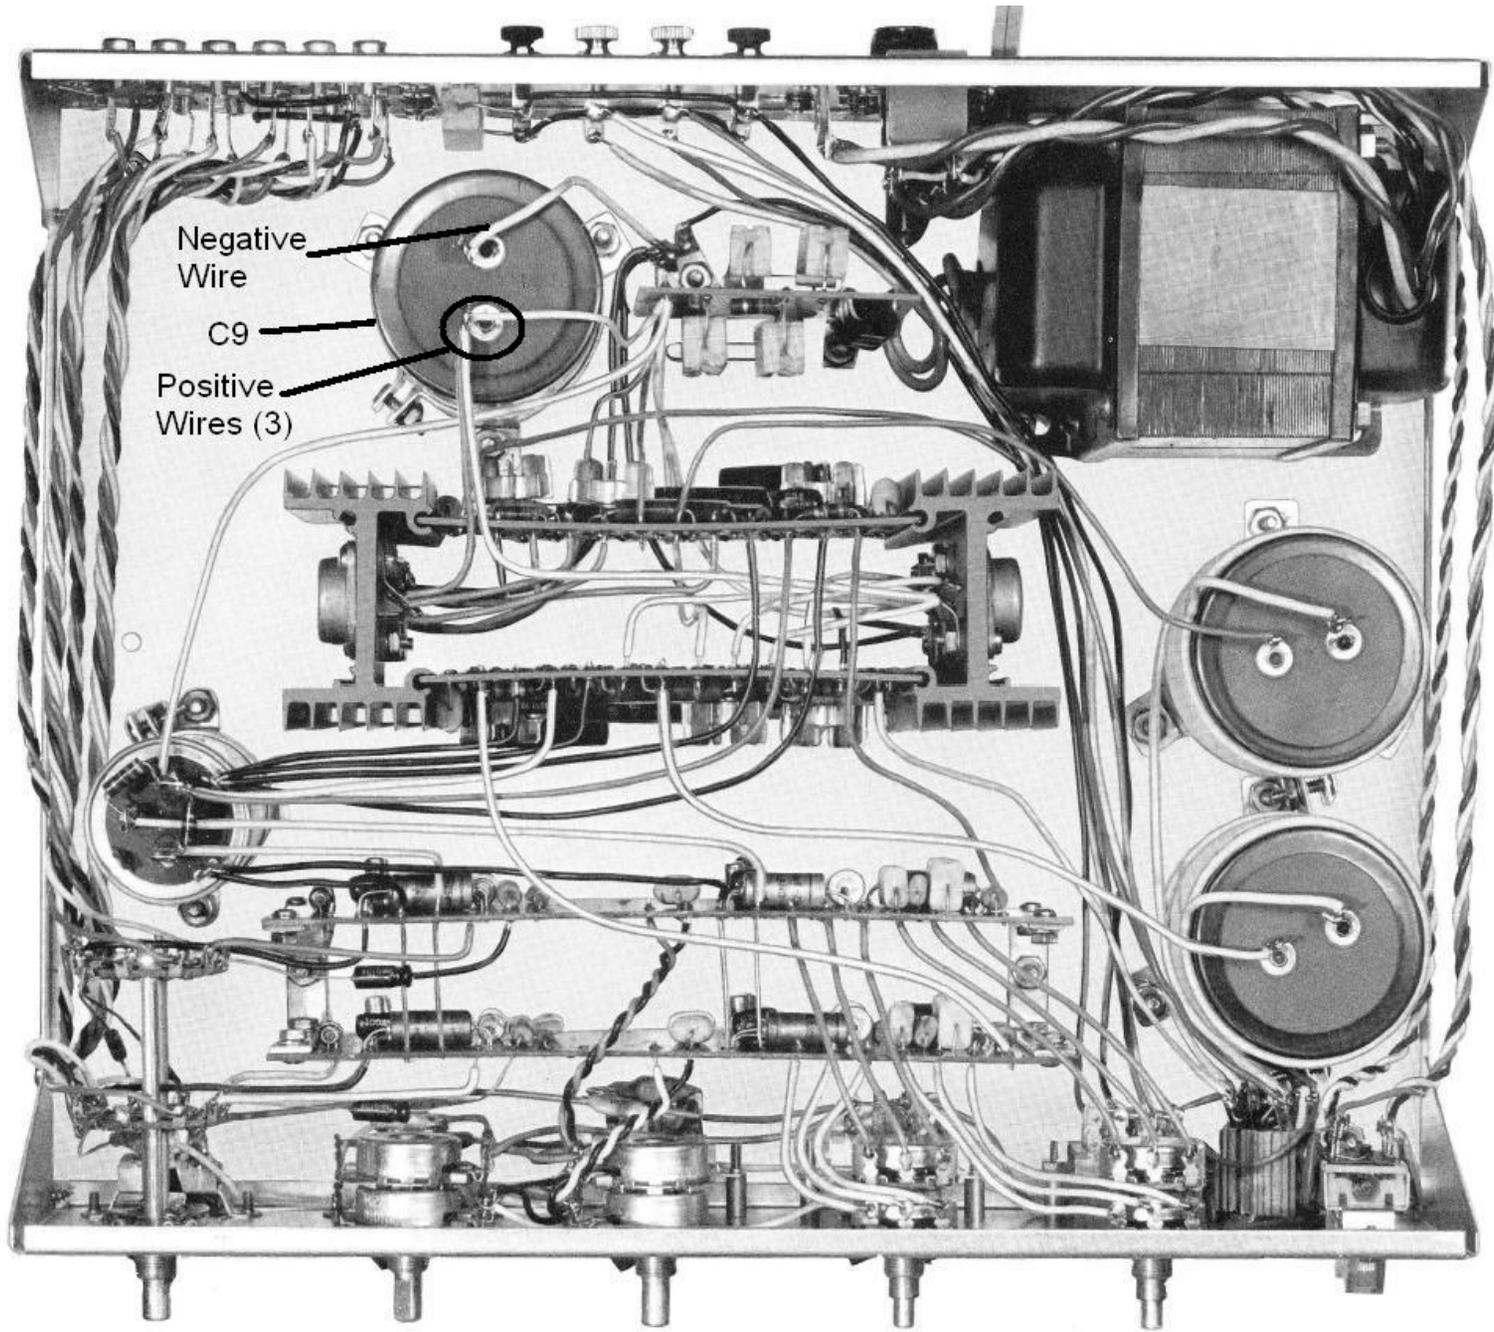

Figure 7-Stock amplifier layout (before C9 replacement)
1. Turn the SCA80(Q) power switch off.
3. Turn the SCA80(Q) power switch on, and give the amp about 15 seconds to stabilize.
4. Refer to Figure 7. Measure the DC voltage present on the terminals of C9. The nominal voltage is 72 volts.
- b) If the voltage is more than 80 Volts, do not go on until you have determined why this might be so. There are a number of taps on the power transformer primary to support various line voltages. Your SCA80(Q) might have these taps mis-set for your prevailing voltage. This is especially possible if your amp is new to you, e.g. an Ebay purchase.